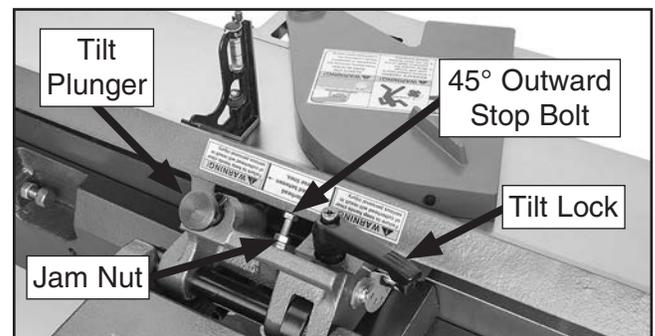

Figure 86. Fence adjusted 45° outward.
3. Loosen jam nut shown in **Figure 86**.